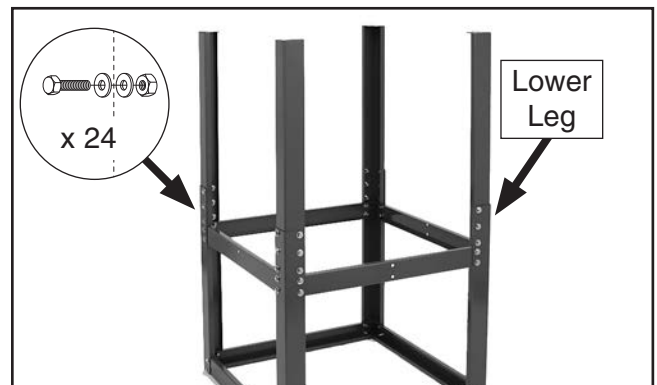

Figure 5. Lower legs attached to stand assembly.
3. Flip stand assembly upside down and install lower legs using (24) $\frac{3}{8}$ "-16 x $\frac{3}{4}$ " hex bolts, (48) $\frac{3}{8}$ " flat washers, and (24) $\frac{3}{8}$ "-16 lock nuts (see **Figure 5**).